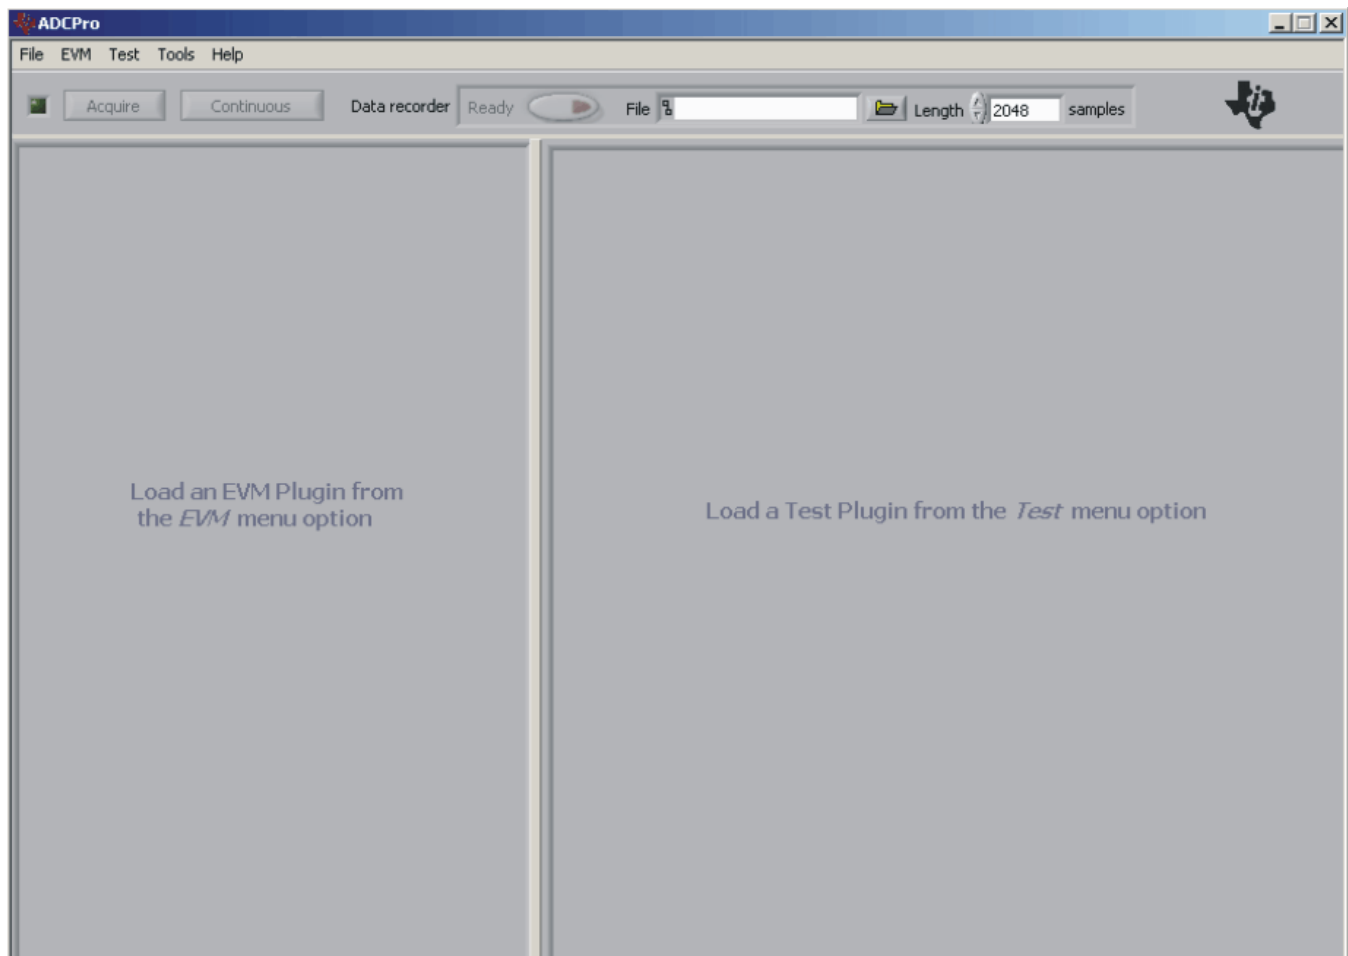

Figure 7. ADCPro Software Start-up Display Window
Step 1. Start the software by selecting *ADCPro* from the Windows Start menu. The screen in Figure 7 appears.